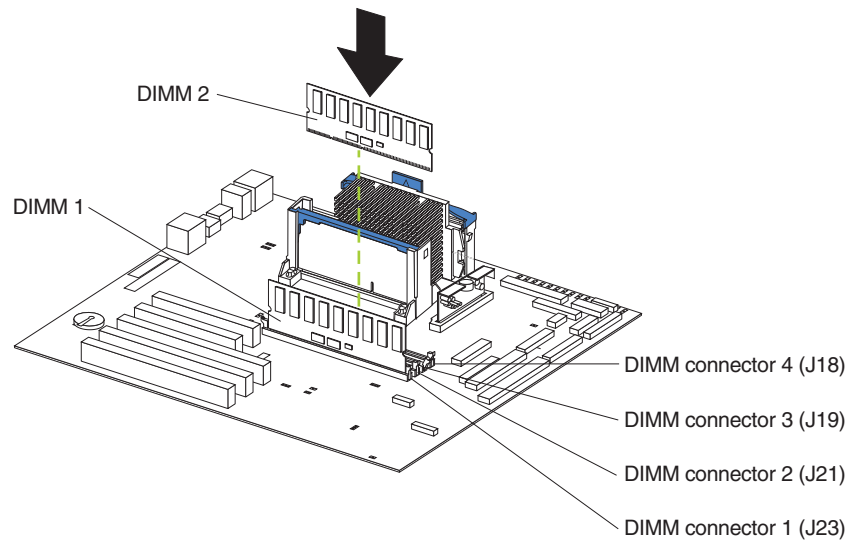

Figure 7. Installing a DIMM
6. Install additional DIMMs in the order specified in the documentation that comes with your option. (See Figure 7 for memory connector locations.)